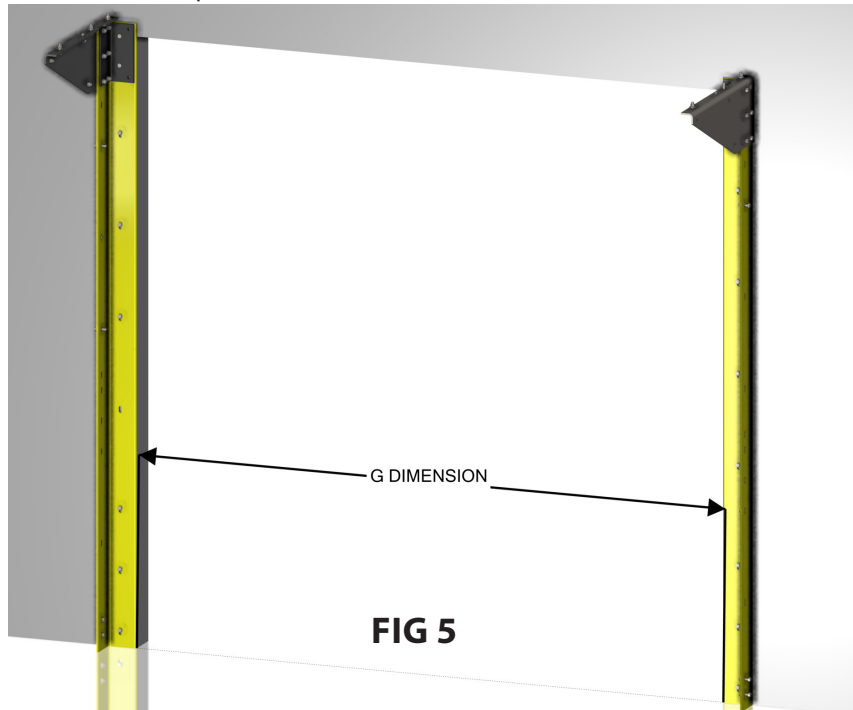

FIG 5
- Use clamps to mount the wall guides to the wall as shown in **FIG 5**.